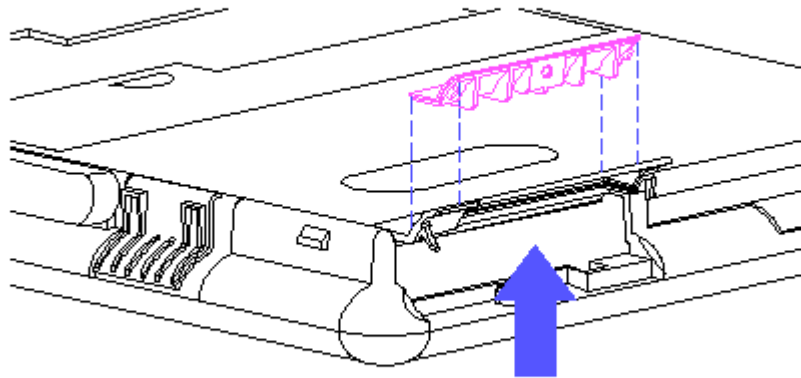

Figure 3-23. Removing the PCMCIA Hard Drive Bezel
4. Remove the bezel by applying pressure along the edge where the screw hole is located, pushing the bezel toward the outside of the PCMCIA door. (Figure 3-23).